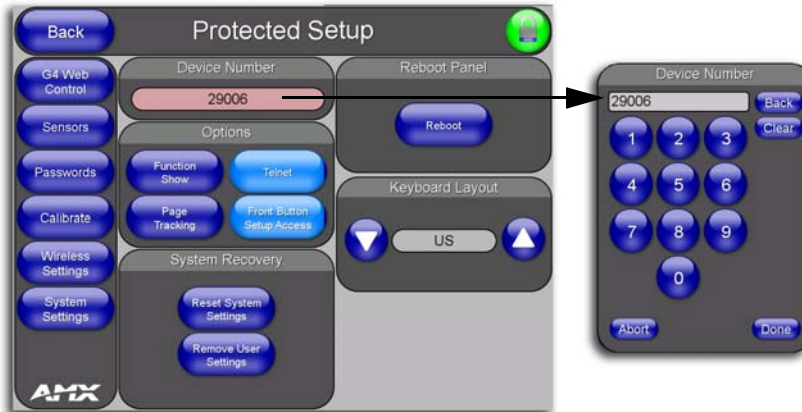

FIG. 72 Protected Setup page
4. Press the red *Device Number* field to open the Device Number keypad (FIG. 72).